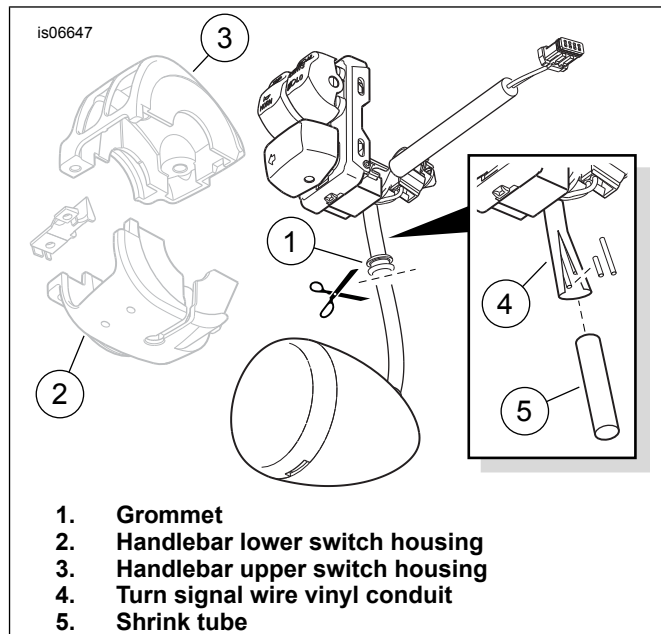

Figure 2. Cut Turn Signal From Switch Assembly
- See Figure 2. On one side of the vehicle, cut the turn signal wires and conduit leading to the turn signal assembly flush with the grommet (1) on the underside of the handlebar lower switch housing (2). Leave approximately 50–75 mm (2–3 in) of wire on the turn signal housing.